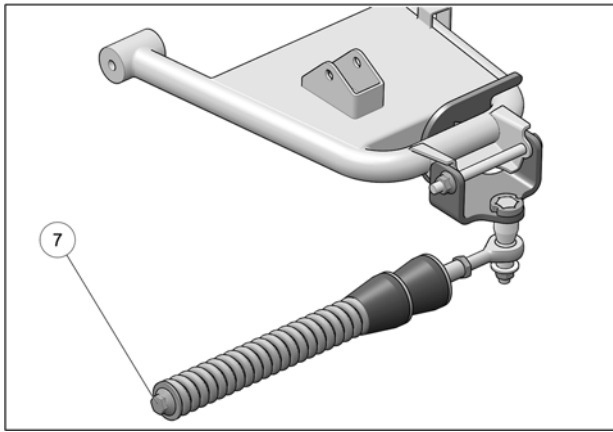

Fig. 10
10. Verify that spring assembly bolt (7) is tightened to the recommended torque specification: 75 N•m [55 lb•ft]. See Fig. 10